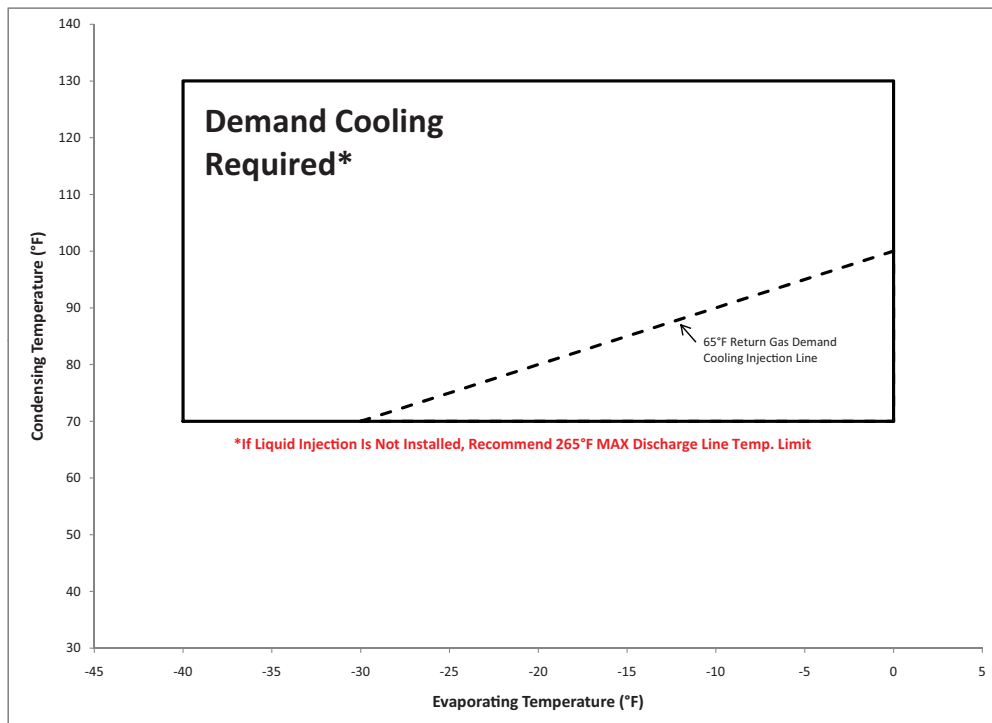

Figure 6 – Low Temperature Operating Envelope for R-22 at 65°F Return Gas (with Head Fan)
- B. The **output signal to the IV** is controlled by an electronic switch connected to the IV solenoid so that, when required, refrigerant vapor can be metered to the compressor to prevent compressor overheating. One side of the electronic switch is connected internally to 'L1' and the other side to output terminal 'S' (see **Figure 6**).